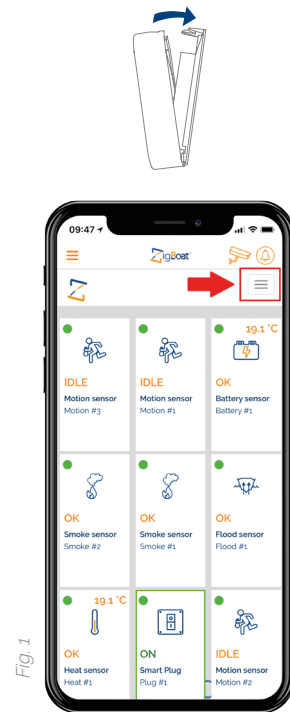

Fig. 1
1. Open the Zigboat APP, select the Gateway in the ZB Gateways menu and wait a few seconds. Then, select the "menu" button on the top right (fig. 1). Select "Device list" (fig. 2). Add the sensor by entering the serial number which is on the sensor's label (fig. 3).